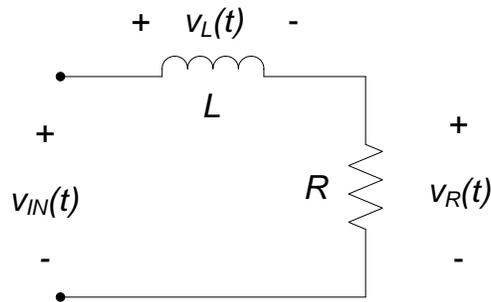

Figure 1. RL circuit being tested.
This lab assignment will be concerned with the simple series RL circuit shown in Fig. 1. We will be interested primarily in the measured vs. expected behavior of the resistor voltage, but a secondary goal of this assignment is to compare the voltage differences across the inductor and resistor. Thus, we will measure both the voltage differences $v_R(t)$ and $v_L(t)$ as shown in Fig. 1¹⁰.
¹⁰ The oscilloscope instrument on the Analog Discovery will allow you to take “double-sided” or “differential” voltage measurements – this allows you to directly measure the voltage difference across any component in the same way you measure a voltage difference using a DMM. Thus, we can measure the voltage differences in Figure 1 exactly as they are indicated on that figure. Many oscilloscopes, however, make single-sided measurements, in which voltage differences are all measured with respect to a “common” or ground node. In order to measure the voltage across the inductor in Fig. 1 using a single-sided oscilloscope, we would typically measure $v_{in}(t)$ and $v_R(t)$ and then using a math channel on the oscilloscope to take the difference between the two to get the voltage across the resistor
Estimate the time constant for the circuit shown in Figs. 1 if $R=200\ \Omega$ and $L = 1\text{mH}$. Also determine the steady state response of $v_C(t)$ if v_{IN} is a step input with amplitude 2V. (e.g. $v_{IN} = 2u_0(t)$ V.) Note: you do not need to write or solve a differential equation for either of the circuits in order to do this.
- a. Construct the circuit shown in Fig. 1, using $R=200\ \Omega$ and $L = 1\text{mH}$. (As always, measure the actual resistance value; assume that the nominal inductance value of the inductor in your parts kit is correct.)